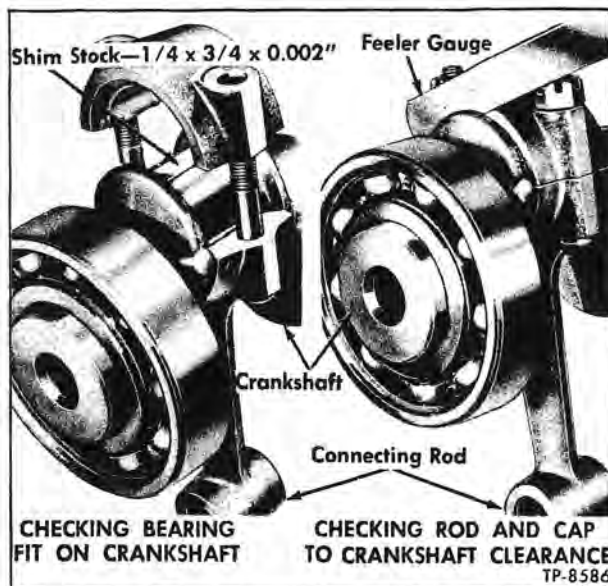

Figure 7—Checking Fit of Connecting Rod on Crankshaft
d. Examine connecting rod bearing halves for scoring, pitting, or visible wear. If damage is evident, new halves must be installed. To check fit of bearings on crankshaft, install each connecting rod with bearing halves on crankshaft journal from which they were removed, using a 1/4 x 3/4-inch piece of 0.002-inch brass shim stock between bearing journal and bearing half (fig. 7). Tighten connecting rod bolt nuts to 5 to 8 foot-pounds torque. If bearing fit is correct, the 0.002-inch shim should lock the bearing on the journal. Check clearance between side of connecting rod and cap and cheek on crankshaft (fig. 7). If clearance exceeds 0.006-inch, new rods and caps must be used.